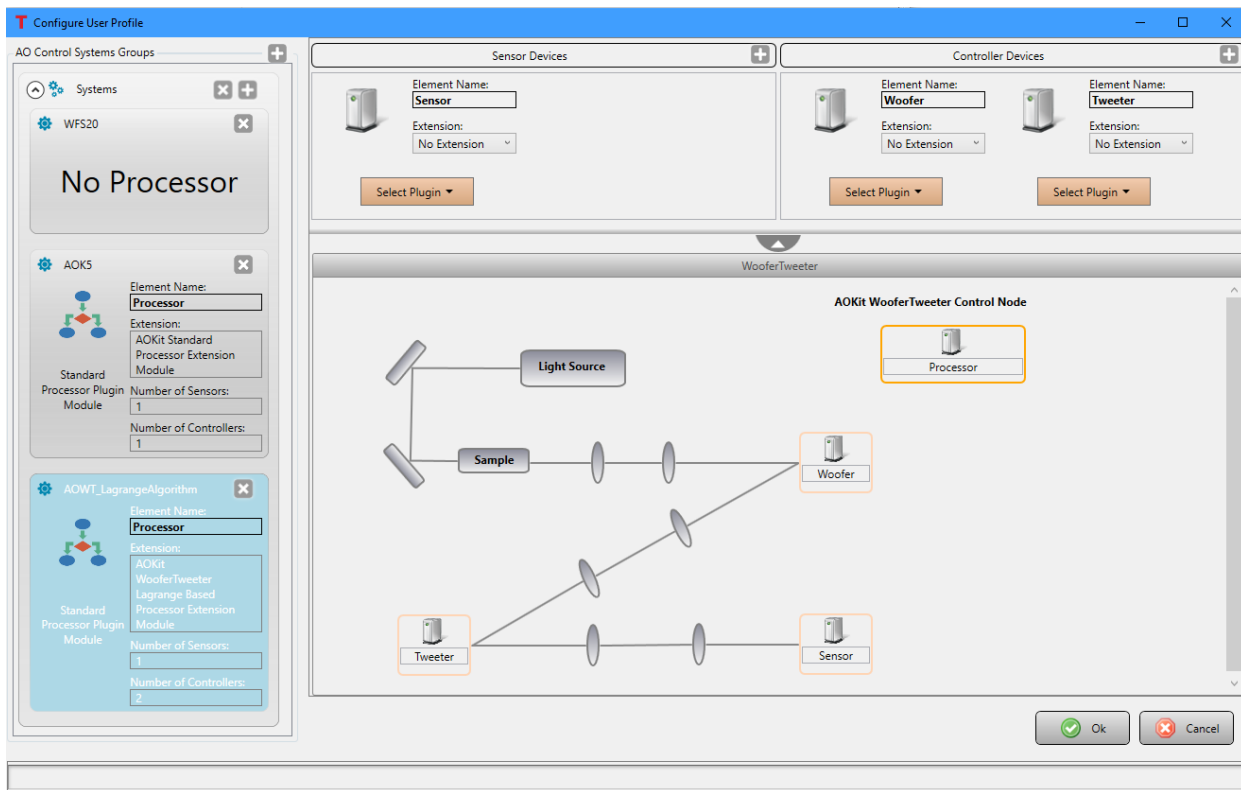

Figure 87 Configure the User Profile window with newly created AOWT_LagrangeAlgorithm; the sensor and controller are not selected.
3. Click the **Ok** button to continue. This will update Configure User Profile window, showing the newly created system. Figure 87 shows the Configure User Profile window, with a newly created system titled AOWT_LagrangeAlgorithm within the Control System Group titled Systems. The AOWT_LagrangeAlgorithm system displayed within the Control Systems Groups section at the left of the window shows the processor extension name (AO Kit WooferTweeter Lagrange Based Processor Extension Module in this example), and the number of sensor and controllers supported by the processor extension is noted. There are no devices linked to the system, evident with no sensor or controller device listed under either category on the right side of the window.
5. Follow step 6 in Section 7.1 to select controller device for Woofer element. In this example the DMP40 controller modules is selected (Figure 87).